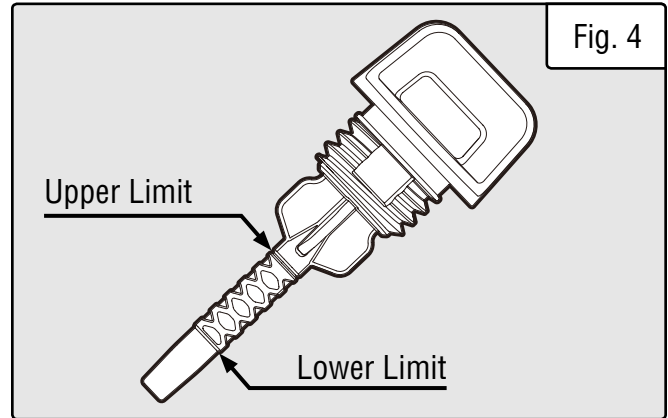

Fig. 4
4. If the oil mark covers **less than one half** of the dipstick, slowly **add oil** until the oil mark reaches the top of the dipstick (or when you can see the oil coming halfway up the oil fill threads). See Fig. 4.